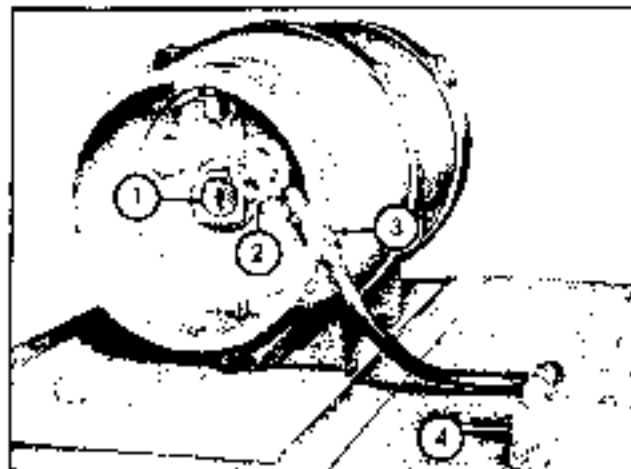

Fig. 1-9. LP-Gas Tank
b. **LP-Gas.** The gage (1, figure 1-9) indicates the amount of LP-Gas in the tank.